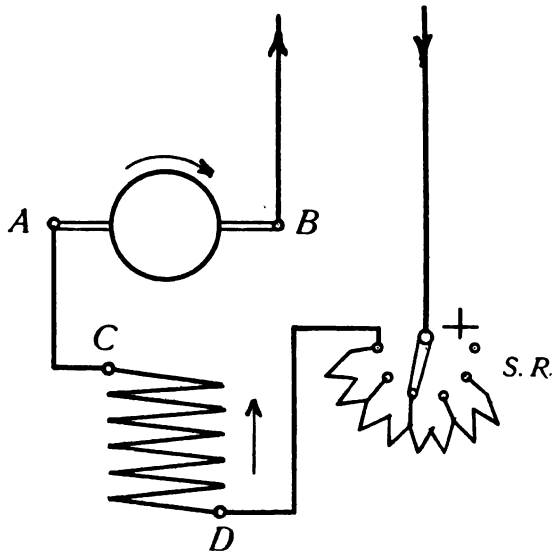

FIG. 26.—Clockwise Rotation of the Armature in a Series Motor.
*C.*) in the field magnet coils, and alter the direction of the armature current by changing the two connections on the brushes *A.* and *B.*, thus connecting field magnet terminal *C.* to brush *A.* and brush *B.* with the second feeder wire, as shown in *Fig. 26*, or we may leave the direction of the flow of current in the armature in its original direction, and reverse that of the field magnet current, as shown